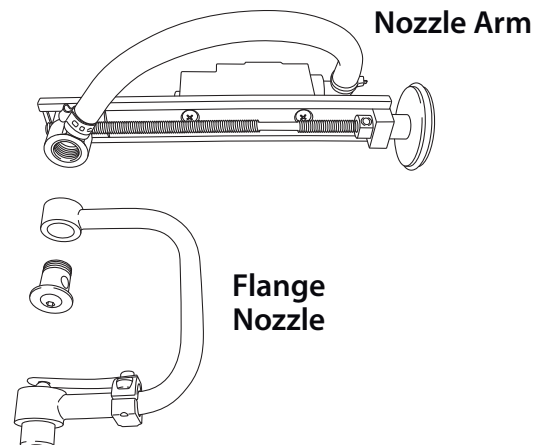

Figure 4B
7. Install the flange nozzle onto the nozzle arm using the supplied mounting nut. Install with the bent part of the nozzle parallel to the nozzle arm and pointing toward the center of the unit. Tighten the nut with the supplied hex key wrench. (Figure 4B)